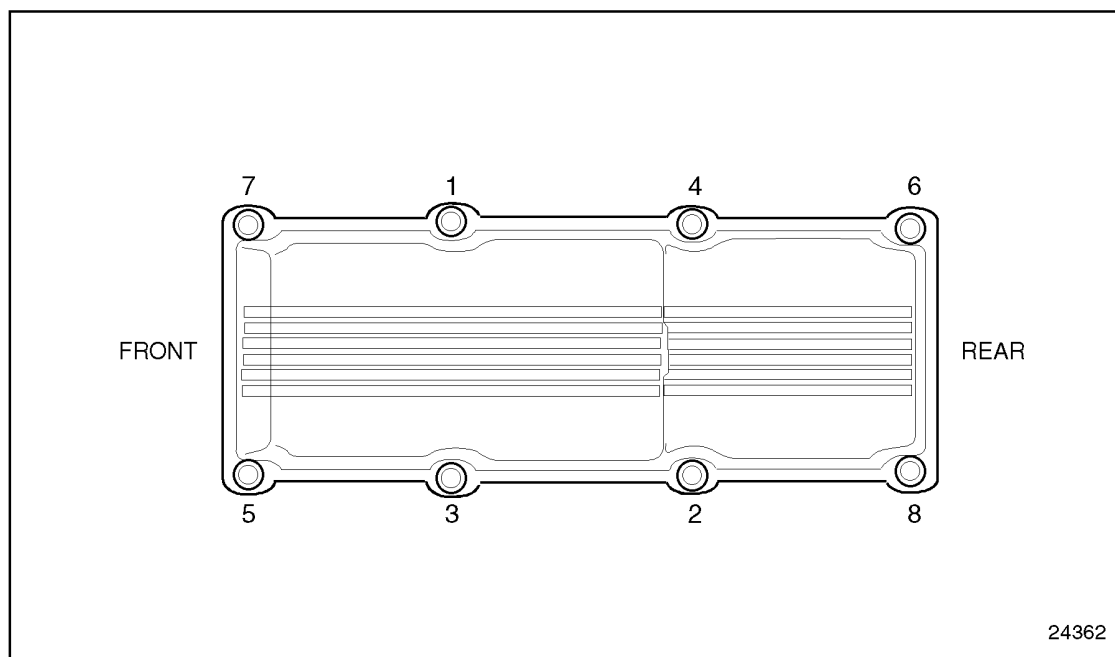

Figure 3-31 Oil Pan Bolt Torque Sequence
6. Ensure that the isolator seal has not been disturbed. Torque the eight oil pan bolt assemblies to 24-30 N·m (18-22 lb·ft), using the proper sequence. See Figure 3-31.